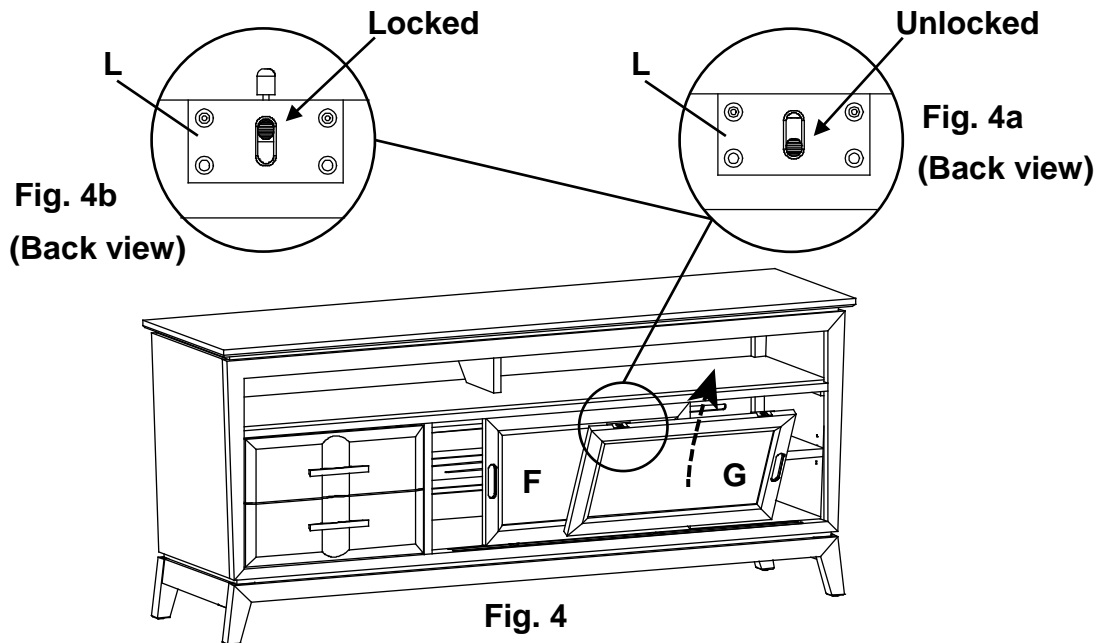

Fig. 4
4. To remove the doors (F & G) shift both doors to the center of the case. Shift the Outside Door (G) to one side, reach behind the top rail of the door and locate the pin portion of the Door Roller (L). See Figure 4. Slide the lock lever downward as shown in Figure 4a. Then shift the door to the other side and slide the lever down on that piece. You may then tip the upper edge of the door forward and remove the door. Remove the Inside Door (F) in the same manner. To insert the doors reverse this process. Be sure to slide the lock lever up to lock the Door Rollers (L). See Figures 4, 4a, 4b.